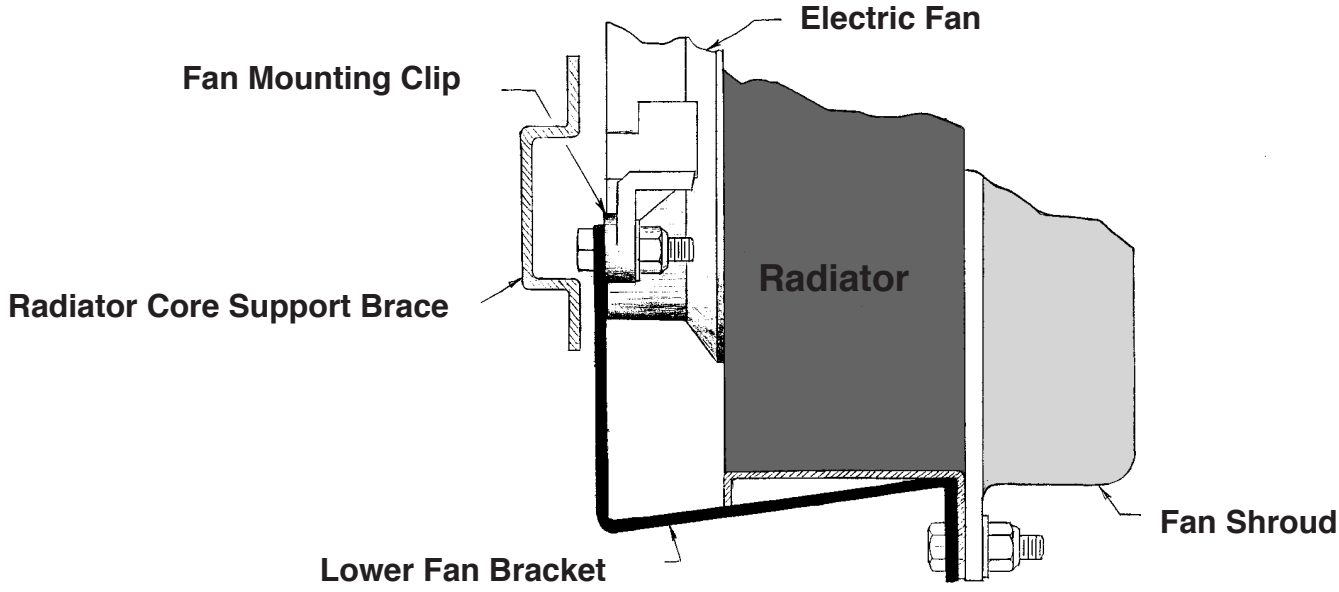

Fig. 2 Lower Bracket Installation
5. Attach the lower mounting bracket to the fan as shown in fig. 2. Be sure the flange marked "F" is forward.